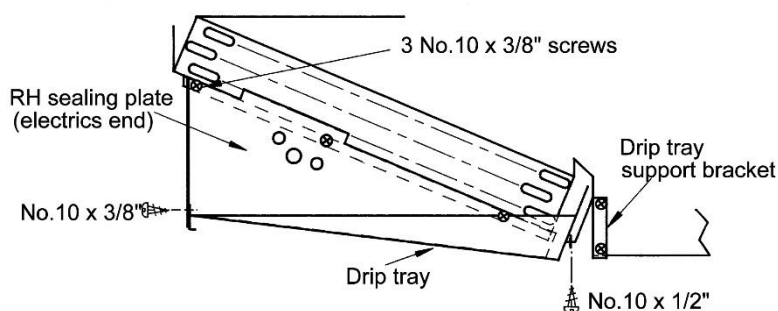

Fig. 1.
- 6 Fit the drip tray so that the rear flange is held in position by the drip tray support bracket and refit the three No. 10 x 3/4" drip tray support bracket screws, (Fig. 1).
- 7 Use two of the retained No. 10 x 3/8" screws to secure the drip tray to the lugs at the front of the sealing plates. Use the No. 10 x 1/2" screw provided in the kit to secure the centre of the rear flange to the centre of the drip tray support bracket, (Fig. 1).